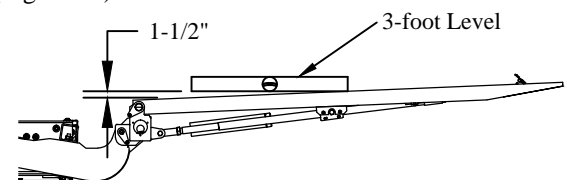

Figure 21: Platform position.
6. **Adjust** the passenger side support arm so that the platform is 1-1/2" from level over a 3-foot length (Figure 21). Adjustment similar to folding cylinder.